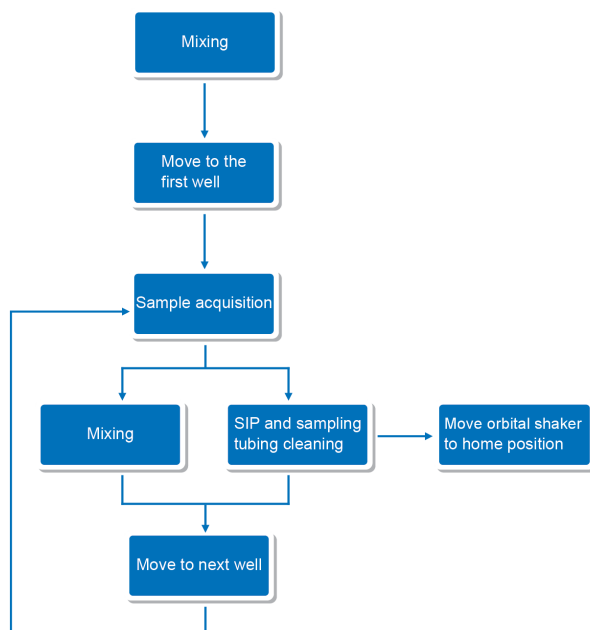

Figure 3-12 Work Flow of Automated Sample Acquisition Procedure with NovoSampler Pro
- 3** The automatic Sample acquisition workflow with NovoSampler Pro is shown in Figure 3-12. The process will begin with mixing the sample. The orbital shaker with the sample plate will then move to align the sample injection probe with the first sample well and it will be followed by sample acquisition. After sample acquisition is completed, the instrument will rinse the sample injection probe. The NovoSampler Pro will then mix the sample, move the orbital shaker with the sample plate to align the sample injection probe with the next sample well, and begin the sample acquisition. The process will continue until all of the selected samples are acquired. The frequency of mixing and rinsing will depend on the settings in the *Plate Manager* panel, which is opened from *View* → *Show* → *Plate Manager*.